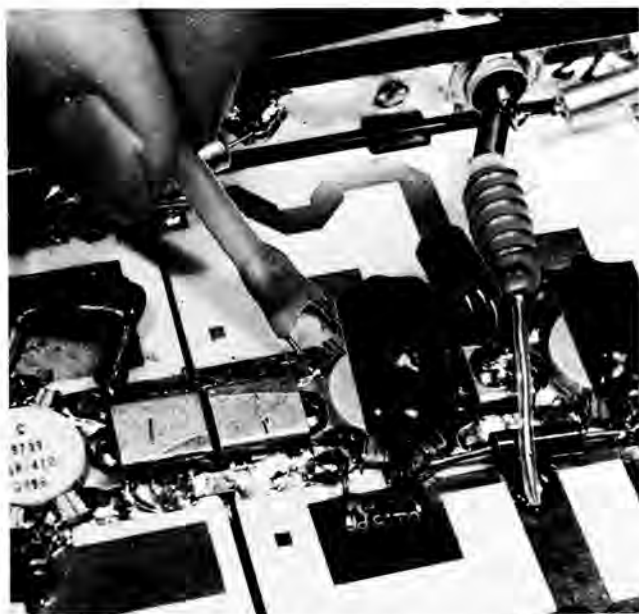

Figure 1. Capacitor Bridging Method of Testing PA Transistors
Step 2. Key the transmitter, adjust the POWER SET control for the same meter 5 reading recorded in Step 4, and observe the wattmeter. Compare the wattmeter reading with the value given in Table 6. If the stage output is greater than 25% of the value given in Table 6, it is likely that both transistors are bad. If the stage output is greater than 25% of the value in Table 6, but still below rated power, it is probable that only one of the transistors is defective. The following procedure is a quick way to determine which transistor is bad: (Refer to Figure 1).
- Trim the leads of a 10 pF, NP0, disc ceramic capacitor to within 1/4-inch of the capacitor body. As shown in Figure 1, a length of shrinkable tubing over the capacitor body will make handling easier.